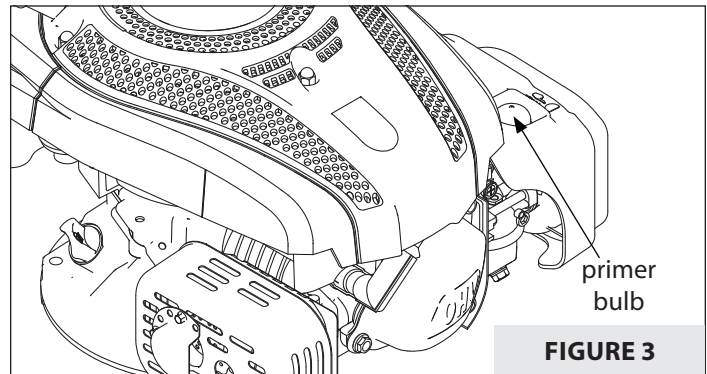

FIGURE 3
5. Press primer bulb three times. Let bulb fully recover between each depression. **SEE FIGURE 3.**